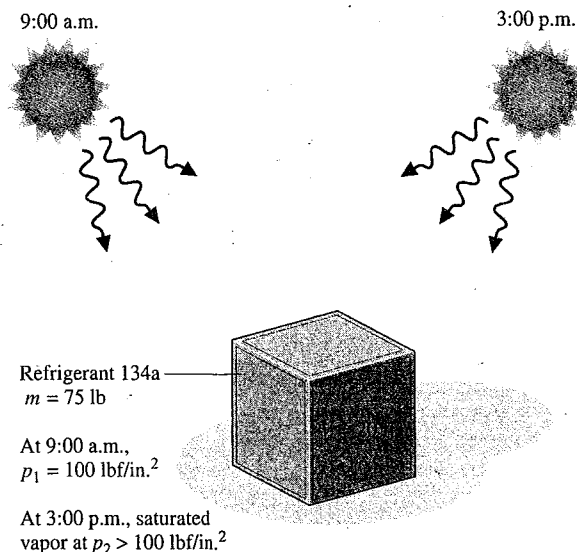

Fig. P3.59
- 3.59 As shown in Fig. P3.59, a rigid, closed tank having a volume of 20 ft³ and filled with 75 lb of Refrigerant 134a is exposed to the sun. At 9:00 a.m., the refrigerant is at a pressure of 100 lbf/in.². By 3:00 p.m., owing to solar radiation, the refrigerant is a saturated vapor at a pressure greater than 100 lbf/in.². For the refrigerant, determine (a) the initial